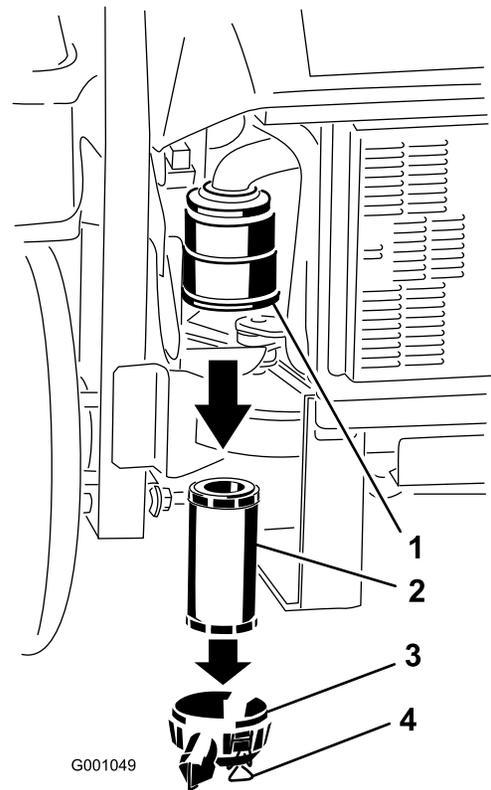

Figure 55
3. Release the latches on the air cleaner and pull the air-cleaner cover off the air-cleaner body (Figure 55).
5. Gently slide the filter out of the air-cleaner body (Figure 55).